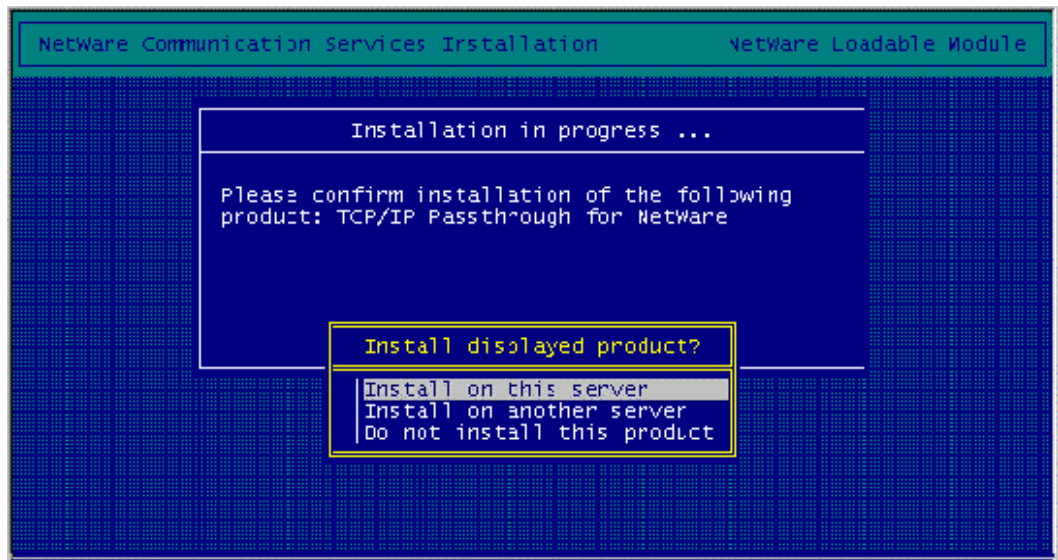

Figure 12-5. Installation Confirmation Screen
5. Press **<Enter>** to continue. An Installation Confirmation screen will display with the **“Install on this Server”** action highlighted (Figure 12-5). Press **<Enter>** to install the product.